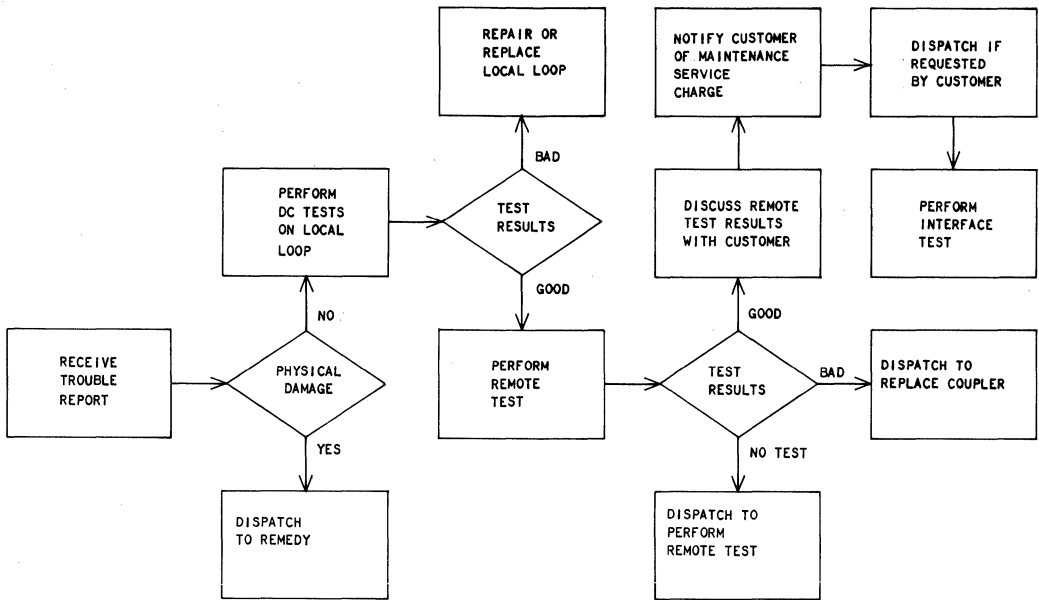
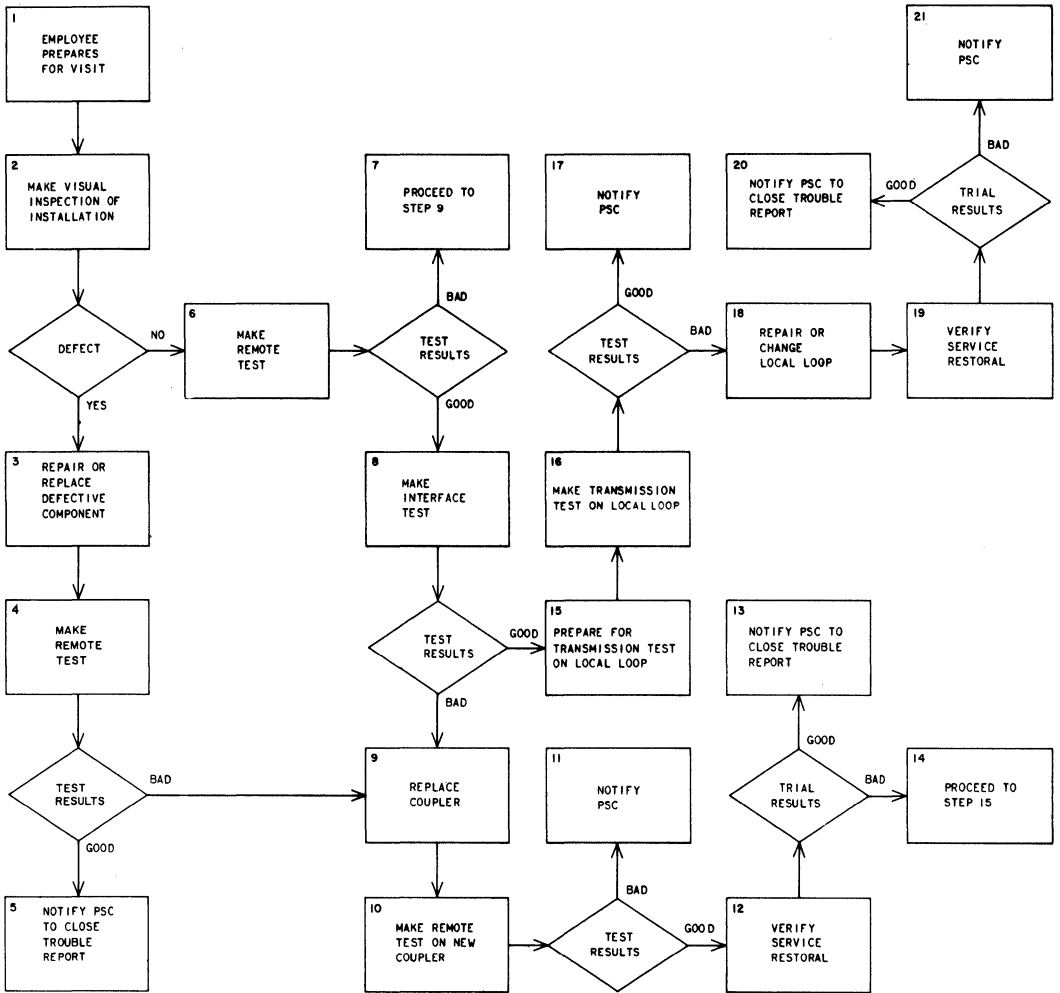

Fig. 16—Basic Activities Prior to Dispatching Employee
Fig. 17—Activities for Troubleshooting at a Coupler Station
5.05 The PSC must analyze the information provided by the customer to determine if a trouble condition does exist and the most probable cause. Available tests (ie, normal dc loop test and remote test of coupler) should be performed to determine if a telco employee must be dispatched to customer premises. The conditions which could warrant a maintenance visit and efforts which lead to each are indicated in Fig. 16.
should be performed as directed by the PSC. Begin with the steps shown in Fig. 16 when test results and analysis received from the PSC lead to that particular activity. If a trouble report is not available or if the report is inconclusive, follow the suggested sequence of activities as illustrated in Fig. 17 and described in the following: